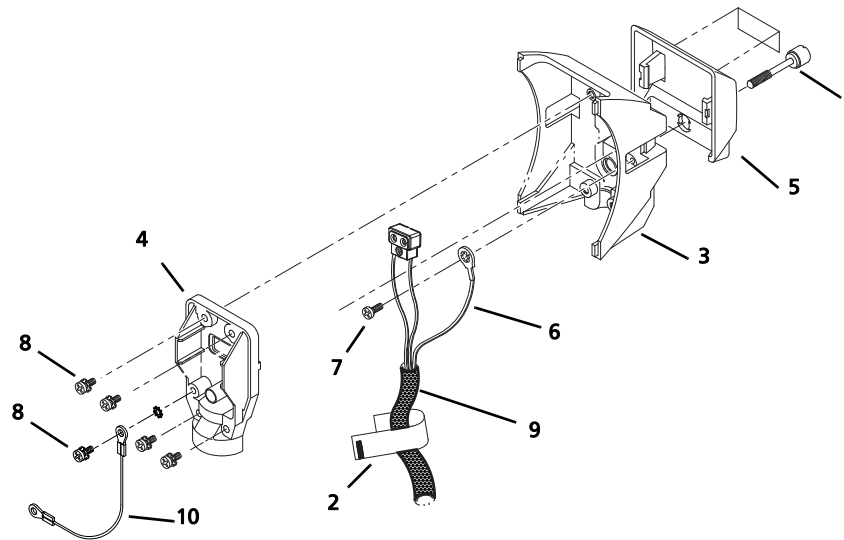
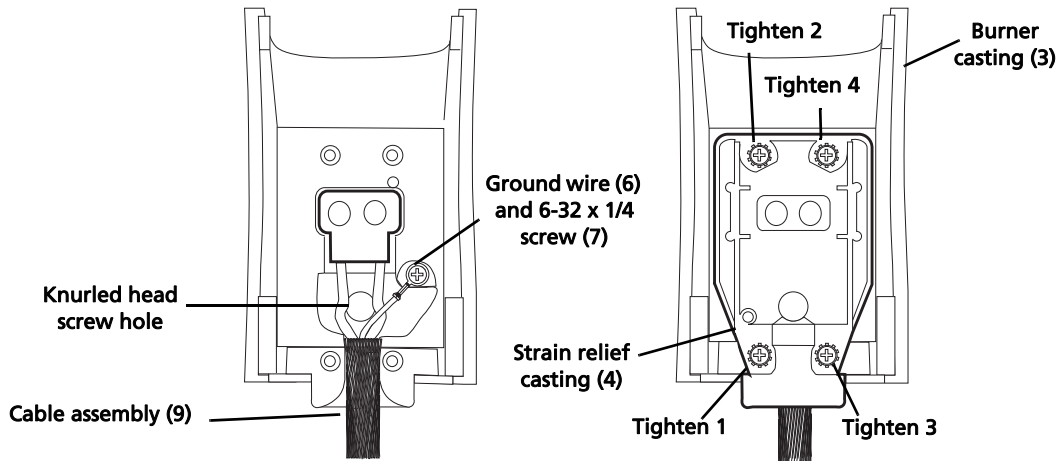

Figure 2
Figure 3
1. Snap the focus handle (5) onto the burner (3). See Figure 2.
2. Secure the ground wire lug (6) onto the burner casting (3) using screw (7).
3. Place the cable assembly (9) into the burner casting (3). See Figure 3.
4. Insert the screws (8) into the four positions in the strain relief casting (4). See Figure 3.
5. Position the cable assembly (9) as shown in Figure 3.
6. Place the strain relief (4) on the burner casting (3). Loosely attach the screws (8). The cable assembly (9) must be centered in the strain relief opening (4). See Figure 3.
7. To guard against stripping the screws, tighten them in the order shown in Figure 3.
8. Make sure the focus handle is secure, then insert the knurled head screw (1) through the handle (5) into the burner casting (3). Tighten securely.
9. Attach safety wire (10) to strain relief using the screw (8) as shown in Figure 2.